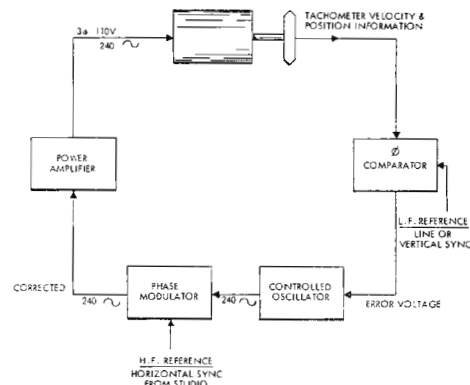

Fig. 3. Diagram of drum servo system.
**The Drum Servo** — The first requirement of a drum servo (Fig. 3) is that it maintain an average velocity of the head drum to an accuracy sufficient to permit the write/read of video signals within a time-base established by FCC standards. The underlying reason is that the final image will display an annoying horizontal jitter if this condition is not met. This requirement can be met if the short-term velocity shift of the drum is not in excess of  $\pm .75$  microsecond and does not require vertical or horizontal synchronism to be maintained with the studio's source; i.e., the recorder is free-running and its positional timing is random although its average timing is within FCC specs.